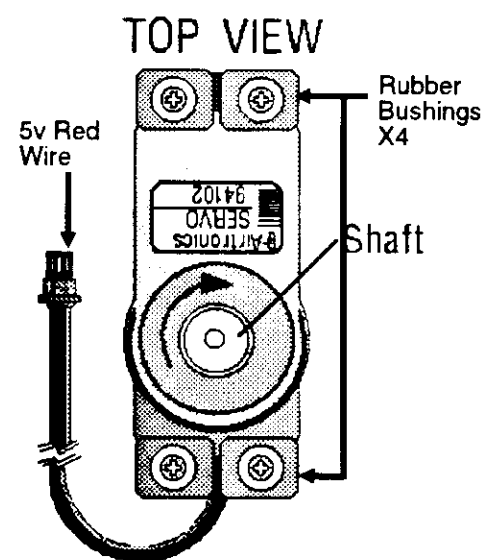

Figure 5
(See Figure 5)
- B. 'BIAS' THE MOTOR BY TURNING THE SHAFT *CLOCKWISE* (RIGHT) UNTIL IT STOPS. (Fig. 5)
- C. INSTALL THE FOUR (4) RUBBER MOTOR MOUNT BUSHINGS.